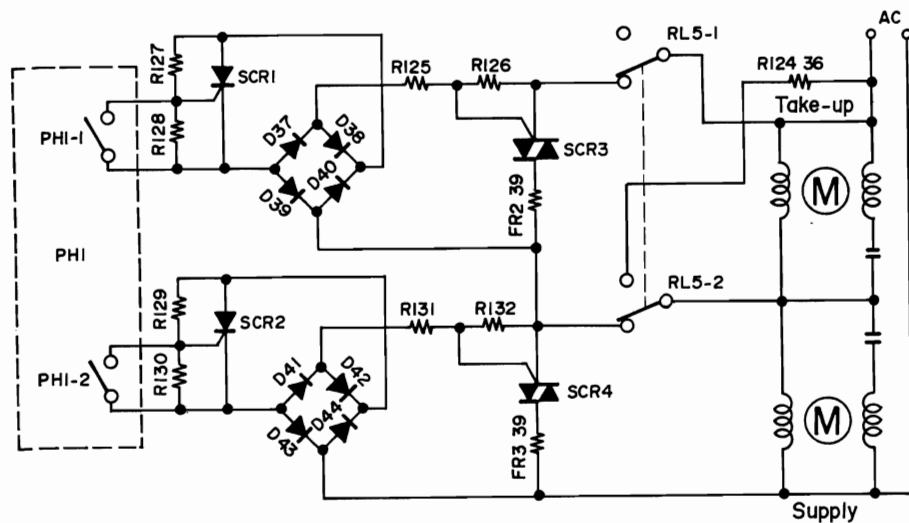

Fig. 6-44
turn TR42 ON and RL5 ON. Fig. 6-44 shows the condition when RL5 is ON. R124 36 ohms so far attached is disconnected from the take up reel motor. Suppose the signal of IC 2 (22) (reel motor control) is in "L". TR40 is OFF via R108, and TR38 is turned OFF via R104. TR38 collector will be "H". The base of TR49 will be "H" through R106 to turn TR39 ON, i. e., the switch of PH1-2 is ON. Therefore, PH1-1 will be ON when PH1-2 is OFF or vice versa.